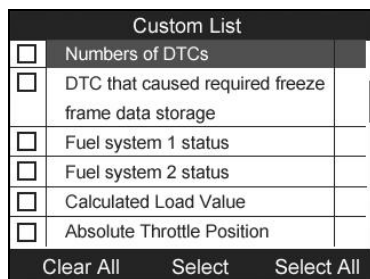

Figure 6.11
- 2) Use the **UP/DOWN** scroll button to move to the desired item and press the corresponding **FUNCTION BUTTON 'Select'** to choose. (Figure 6.11)